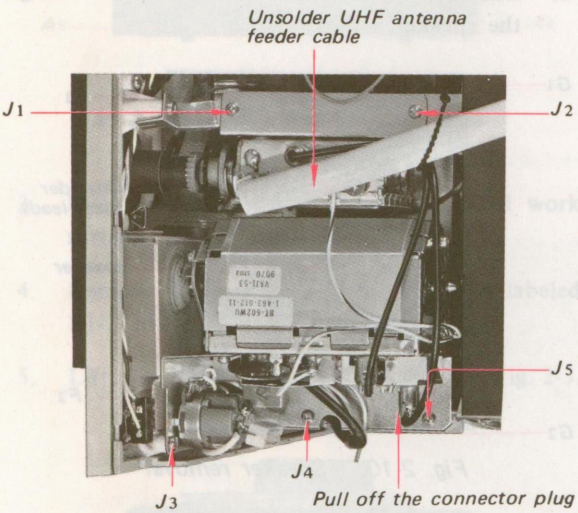

Fig. 2-12. Volume control removal, Step 5
5. Remove the five screws labeled J1-5 in Fig. 2-12.